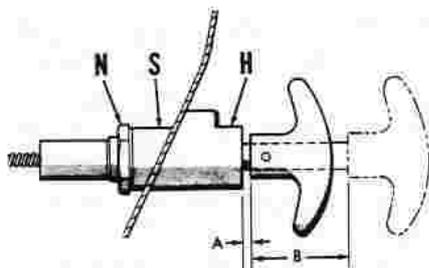

Fig. 237—PTO handle housing (H) is retained to instrument panel by nut (N) and spacer (S). "A" and "B" indicate adjustment measurements; refer to text.
**239. ADJUST PTO CONTROL.** To check adjustment of the PTO control, refer to Fig. 237 and proceed as follows: